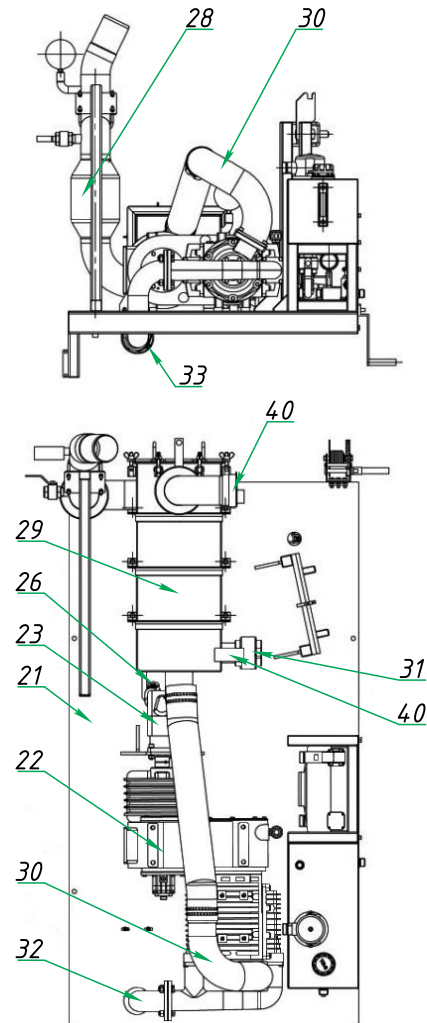

Figure 4 - Compressor unit
Between the chassis cab and the hopper (Fig. 4) is a platform (pos. 21) with a compressor (pos. 22) mounted on it, driven by a hydraulic motor (pos. 23). Oil is supplied to the hydraulic motor from the hydro station (pos. 26). The hydraulic pump is mounted on the chassis power take-off (PTO) QH 50 G25903*. A spare tire holder is also located on the platform; it is lifted using a cable hoist with a manual winch.